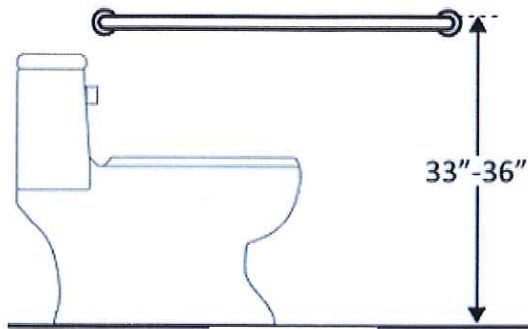

Figure 5
- Adjust grab bars to 33"-36" above the floor (fig. 5).